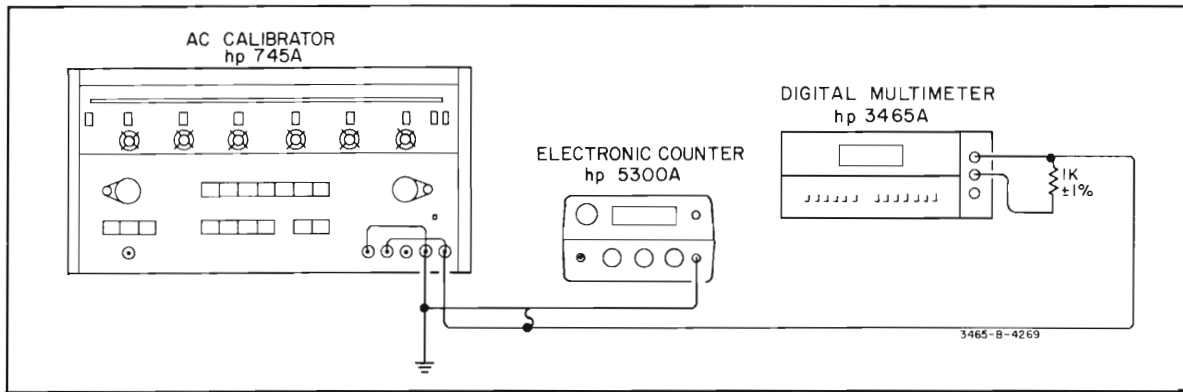

Figure 5-5. AC Effective Common-Mode Rejection Test.
- Connect the AC Calibrator to the Multimeter as shown in Figure 5-5.